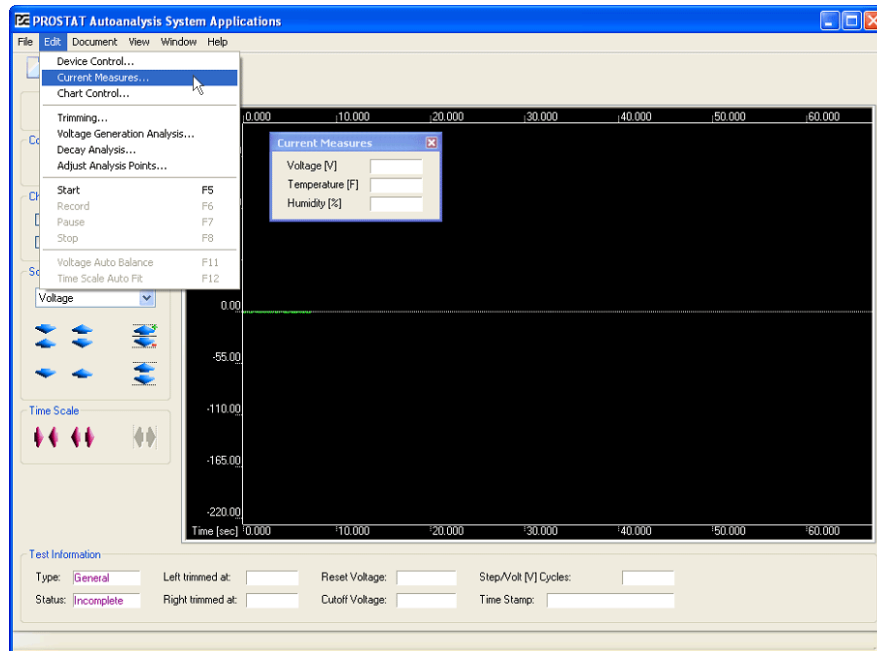

Figure 13: Opening the Current Measures window for detailed data display
16. To fine tune the zero reference, open the **Edit** drop down menu and select **Current Measures** (Figure 13). This will display a small window that provides detailed data regarding specific Voltage, Temperature and Relative Humidity.